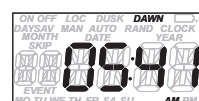

Fig. 8
- The timer will now display **DAWN** and the calculated sunrise time for your location (Fig. 8). Accept the calculated sunrise time or turn the selector knob until the correct time shows in the display, and then press the **OK** button.